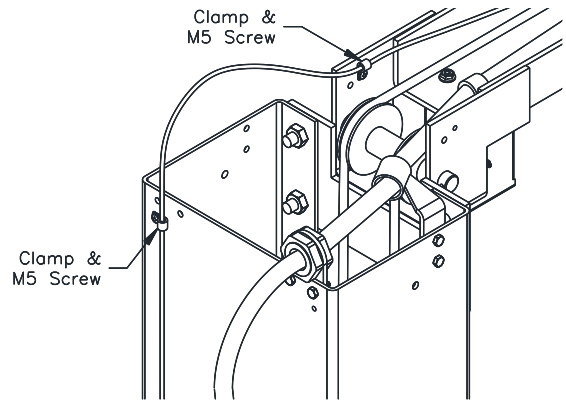

Fig. 10 – Lock Cable Routing
- 32) Secure Lock Release Cable at the top of each column extension as shown in **Fig. 10**. Lock Release Cable should be routed on the opposite